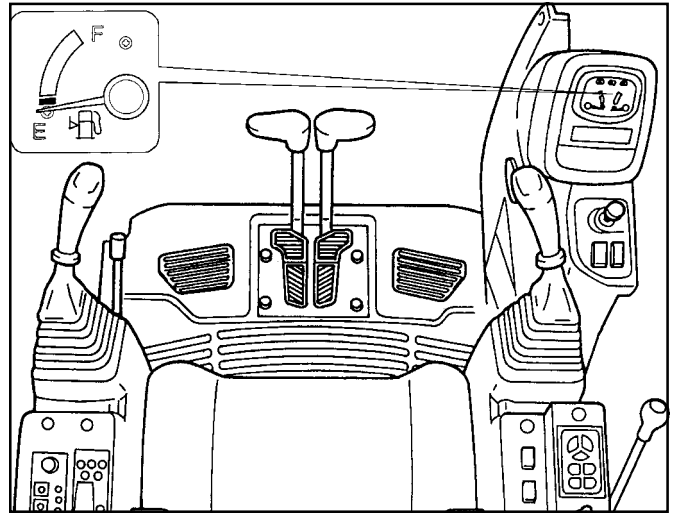

FIGURE 4.15A
1. Turn "ON" the ignition key and the fuel level gauge in the cluster gauge will indicate the fuel tank level. See Figure 4.15A.